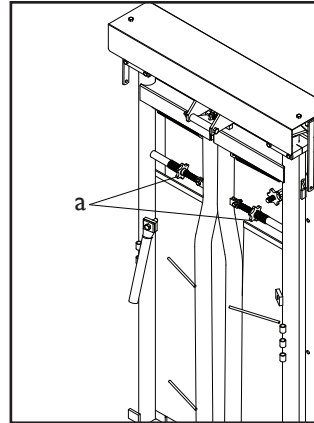

Figure 1: Neck opening adjustment
2. The neck opening can be adjusted by turning the aluminum knobs (a) on each door (Figure 1). This only needs to be done if the animal size varies by more than 300 lbs.